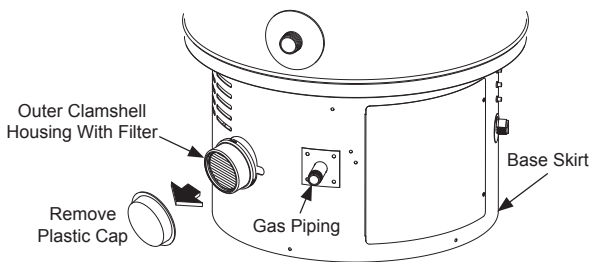

Figure 14. Remove Plastic Cap
- Remove and discard the plastic cap from the outer clamshell housing. See **Figure 14**.